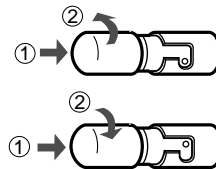

Fig.35
- 4 Remove the lamp from the socket by pushing in gently and turning counterclockwise. (Fig. 35)
- 5 Install the new lamp by pushing it gently into the socket and turning clockwise. (Fig. 35)